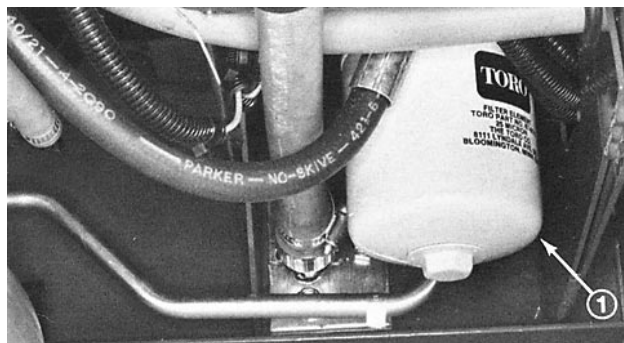

Figure 25
4. Remove the oil filter (Fig. 25), mounted below the control